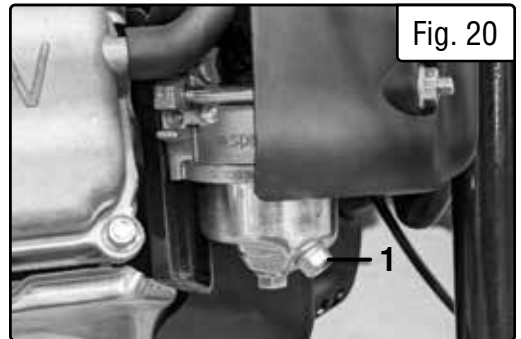

Fig. 20
3. Use a Phillips-head screwdriver (not included) to remove the carburetor drain screw (Fig. 20 - 1).